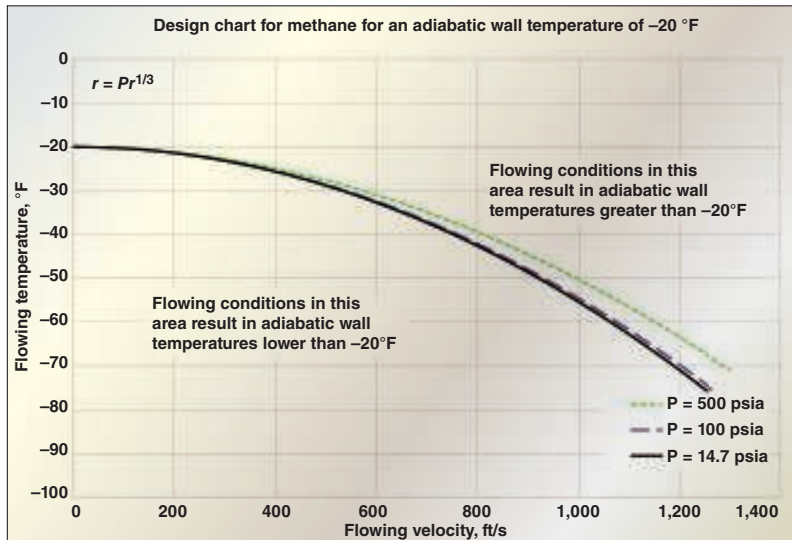

FIGURE 5. This design chart for methane shows a very minor dependence on pressure at an adiabatic wall temperature of -20°F
The properties of methane in the regions investigated are primarily dependent on temperature; however, there is some pressure dependence. The design chart as described above is generated for other static (flowing) pressures, using the turbulent recovery factor of Equation (3), and is shown in Figure 5. One will note the minor effects of pressure on the